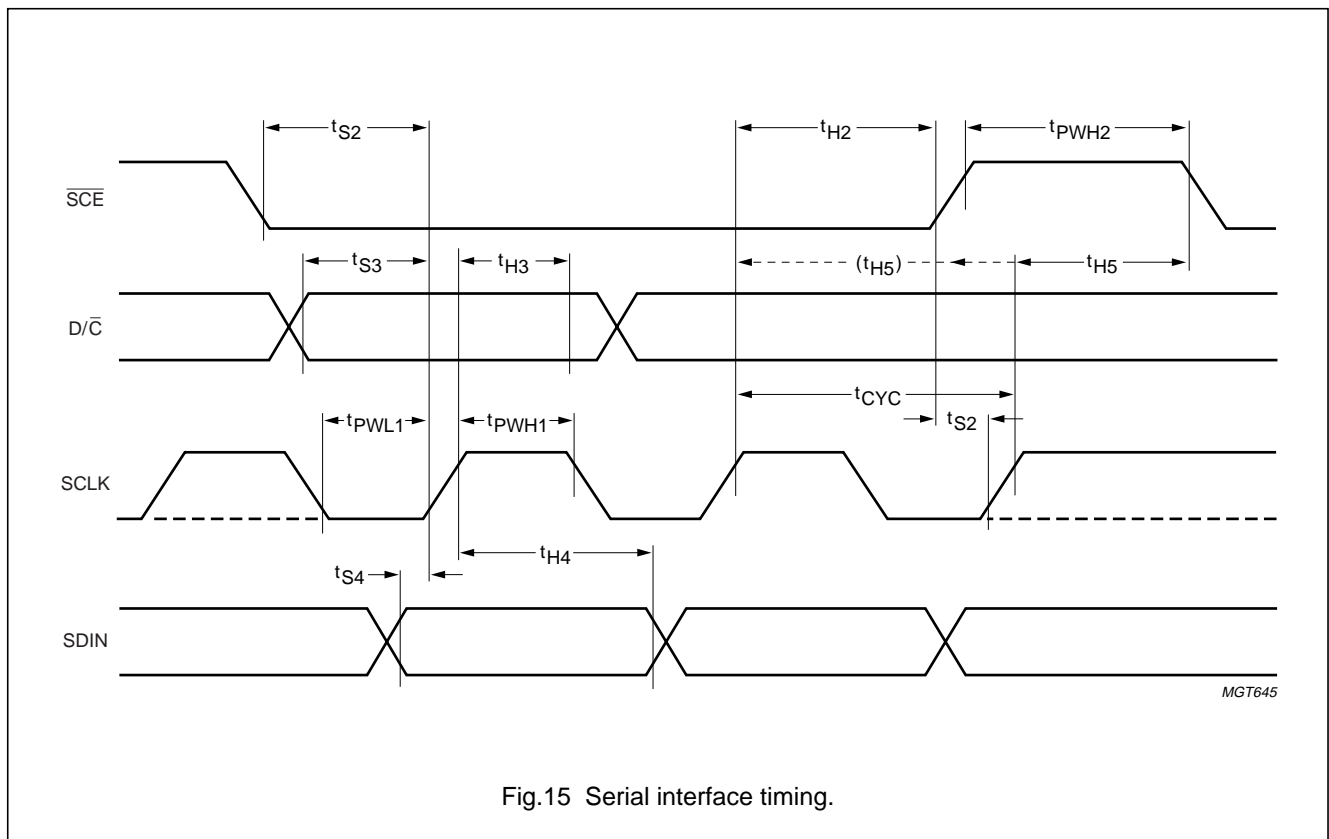

Fig.15 Serial interface timing.
2. t_{H5} is the time from the previous SCLK positive edge (irrespective of the state of SCE) to the negative edge of SCE (see Fig.15).